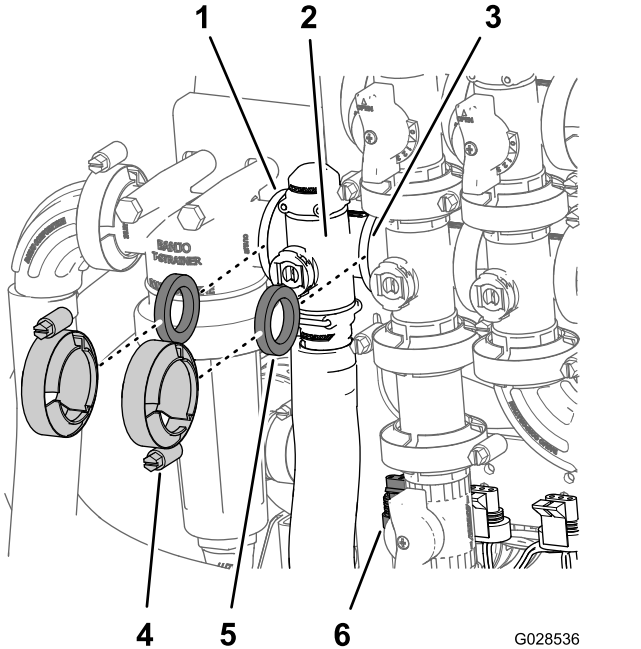

Figure 83
1. Remove clamps and gaskets that secure the manifold for the rate control valve (Figure 83).